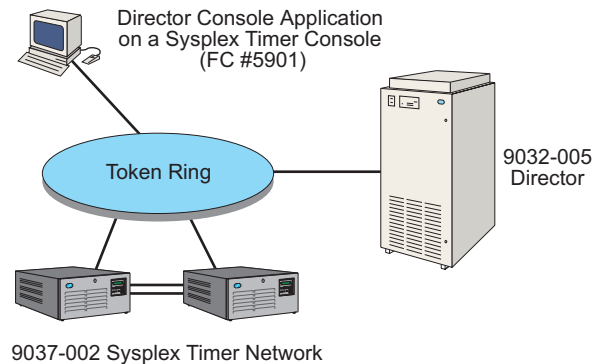

Figure 29. Director Console Application on a Sysplex Timer Console
2. The Sysplex Timer Console (Figure 29).